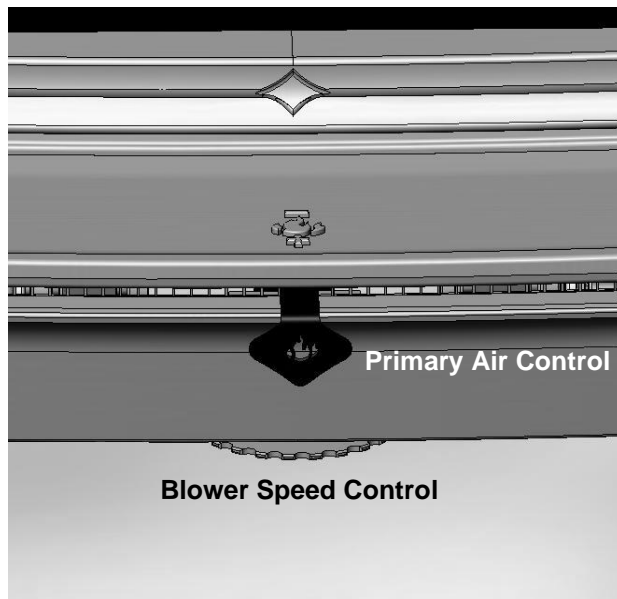

Figure 26 – Primary Air, & Blower Speed Controls
**PRIMARY AIR CONTROL:** The control handle is located on the front center of the ash lip under the ash lip cover (see Figure 26). The primary air control allows you to regulate the amount of air entering the firebox. Generally, the more air allowed into the firebox, the faster and hotter the rate of burn; conversely, less air creates a slower burn. To fully open the primary air intake, pull the handle as far out as it will go away from the firebox; push the handle in as far as it will go towards the firebox to close the primary air control. The control does not completely stop the flow of air.
The blower is factory installed within the front ash lip. The blower will run only when the insert is hot. The blower control (notched wheel) is located in the bottom center of the ash lip (see Figure 26). Routing the power cord to the left or right of the insert is possible - follow the instructions provided in the installation section.